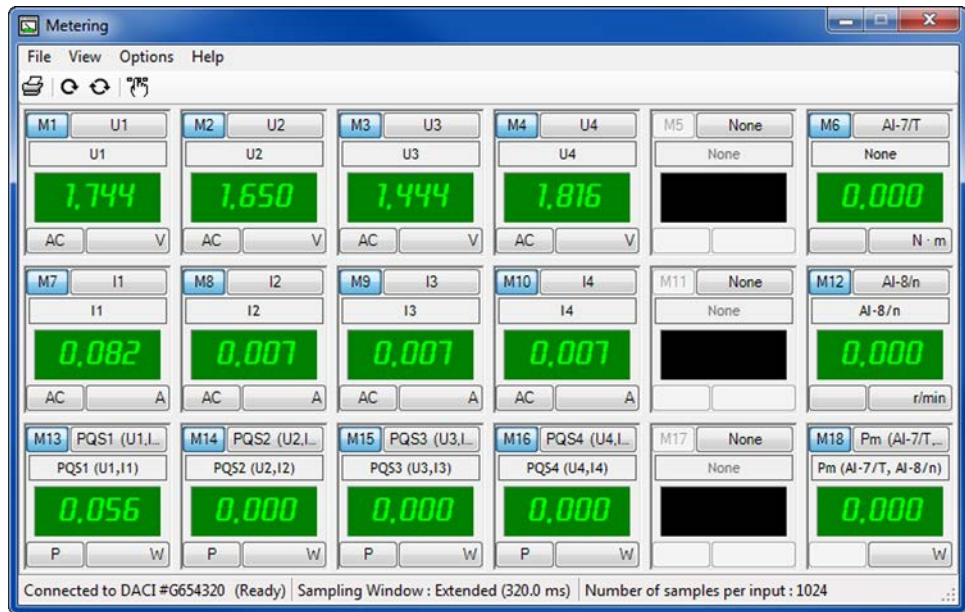

Figure 8: When the Metering instrument is started, the Metering window appears.
16. To start a computer-based instrument implemented with the DACI, select this instrument in the Instruments menu (Figure 7) of LVDAC-EMS, or click the corresponding button in the toolbar of LVDAC-EMS. The selected instrument will appear on the computer screen. For example, Figure 8 shows the window that appears when the Metering instrument is opened.